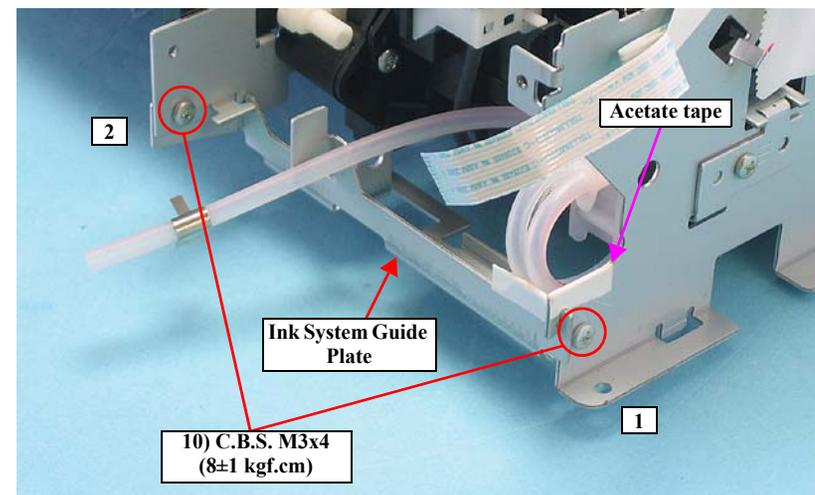
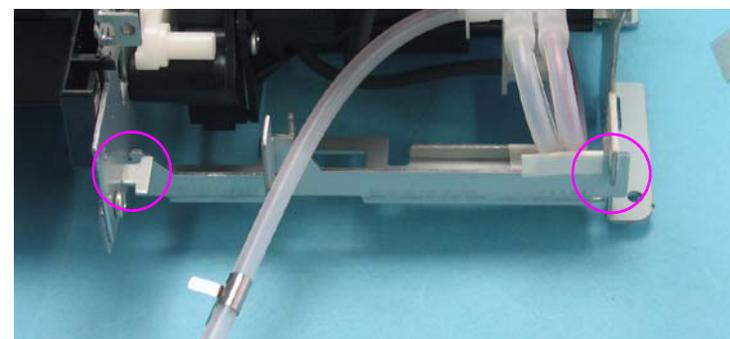

Figure 3-110. Removing the Ink System Guide Plate
Figure 3-111. Reinstalling the Ink System Guide Plate
- Referring to Figure 3-110 and Figure 3-111, attach a piece of acetate tape.
- Tighten the screws in the order shown in Figure 3-110